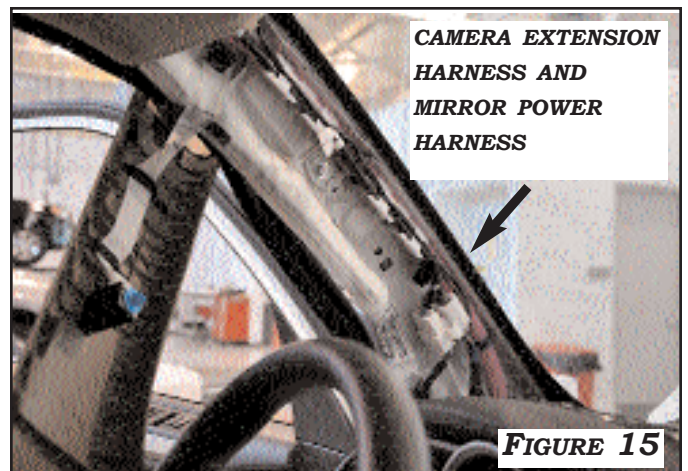

FIGURE 15
1. ROUTE **CAMERA EXTENSION HARNESS** AND **MIRROR POWER HARNESS** (RED, BLACK AND WHITE WIRES) ABOVE HEADLINER TO DRIVER-SIDE A-PILLAR. ROUTE HARNESSES DOWN THE A-PILLAR USING THE FACTORY RETAINING CLIPS OR FOAM TAPE WHENEVER POSSIBLE. IF THE VEHICLE HAS SIDE CURTAIN AIRBAGS, BE SURE TO SECURE THE HARNESS SO THAT IT DOES NOT INTERFERE WITH AIRBAG DEPLOYMENT. ROUTE THE HARNESSES FROM THE A-PILLAR TO THE KICK PANEL. **FIGURE 15**